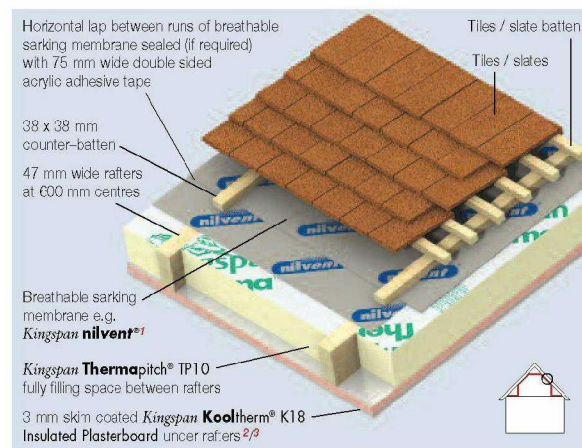

Figure 1a
NB When calculating U-values to BS / I.S. EN ISO 6946: 2007, the type of mechanical fixing used may change the thickness of insulation required. The effect of fixings for Kingspan Kooltherm® K18 Insulated Plasterboard in the U-value calculations for Figures 1a, 1b, 1c, 1d, 2a, 2b, 4a & 4c is insignificant as the insulation layer penetrated is not the main insulation layer. The U-value calculations for Figures 3a & 3b assume that over rafter layers of insulation are fixed using stainless steel fixings with a cross sectional area 7.45 mm², with 3.7 fasteners per m² (insulant thickness 0–40 mm), 6.2 per m² (insulant thickness 41–60 mm), 8.3 per m² (insulant thickness 61–80 mm) and 10.0 per m² (insulant thickness > 80 mm). Please contact the Kingspan Insulation Technical Service Department (see rear cover) for project calculations.
- ¹ In Figures 1a & 3a the breathable sarking membrane can be placed over the counter-battens, draped to provide for drainage and overlain with tile / slate battens. This will yield a marginally better U-value but it will be more difficult to seal the breathable sarking membrane effectively.